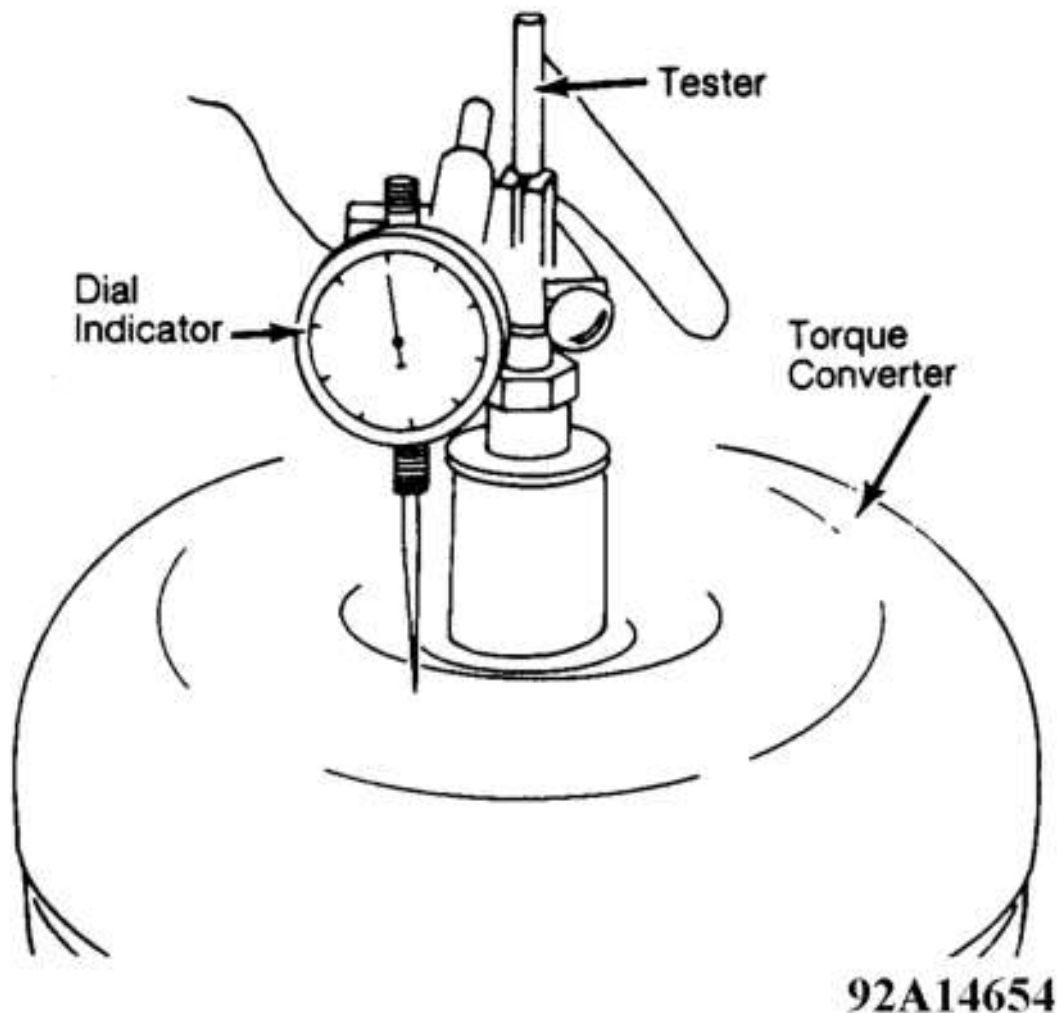

Fig. 9: Checking Torque Converter End Play
2. Attach a dial indicator to tool with indicator button on converter pump drive hub. See **Fig. 9**. Zero dial face. Lift tool upward as far as possible and note indicator reading.